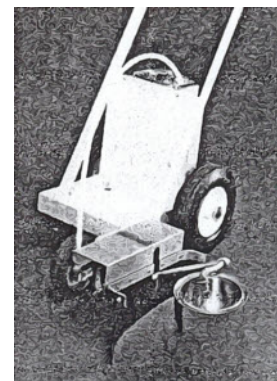

Figure 5
2. Insert the siphon tube into a can of Acetone or Methyl Ethyl Ketone (Figure 5), place a catch pan under the spray nozzle, and rotate the front wheel until the solvent from the spray nozzle appears clear.